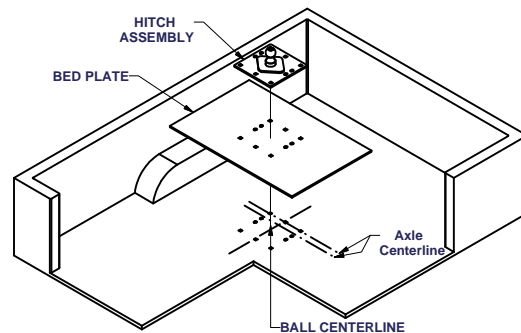

FIGURE 4
1. Center bed plate in the pickup bed. (Figure 4)